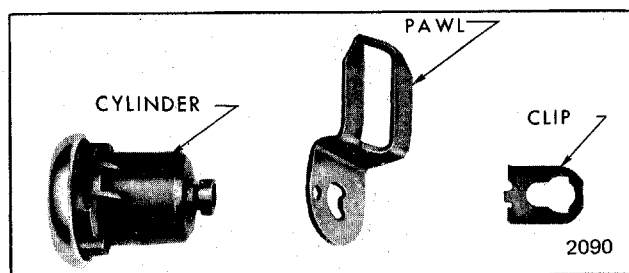

Fig. 5-47-Door Lock Cylinder Assembly
2. With a pointed tool, disengage pawl retaining clip and remove pawl (Fig. 5-47).